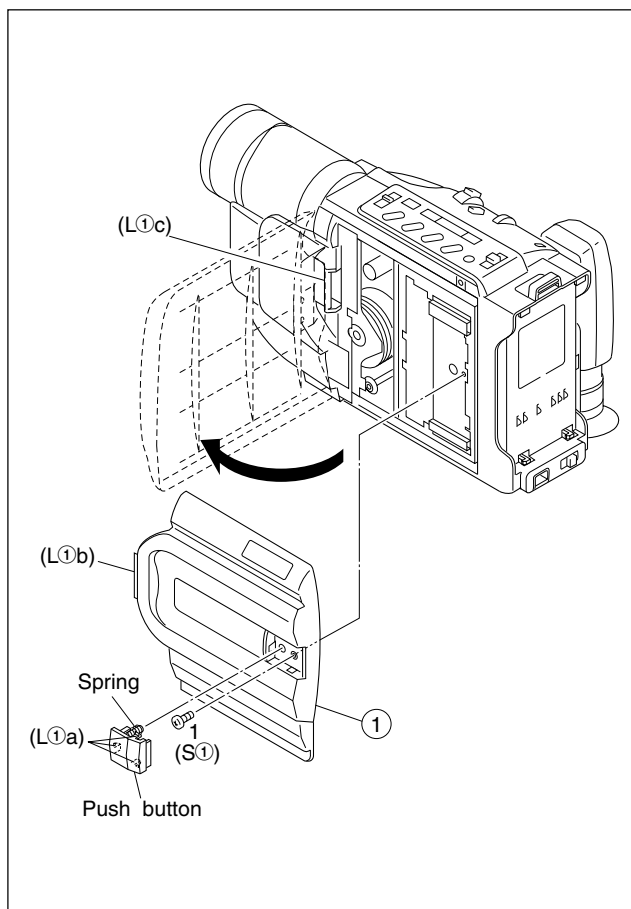

Fig. C1
2. Remove the cassette cover assembly, Upper case, Lower case assembly, Top operation unit, Front cover assembly (See Fig. C1, C2, C3, C5 and C7, Pages 1-4 to 1-6).